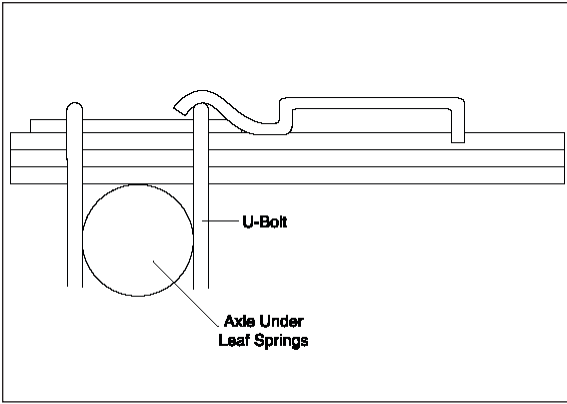

Figure 7
1. With the vehicle at normal ride height, set the bracket-air spring assembly on the leaf spring in the determined location (forward or behind). Set the assembly onto the leaf spring with the hook end of the lower bracket (C) over the spring perch or factory U-bolt. The hook end of the lower bracket must lock over the U-bolt or perch to avoid moving along the leaf spring. See Figure 7 and 8.